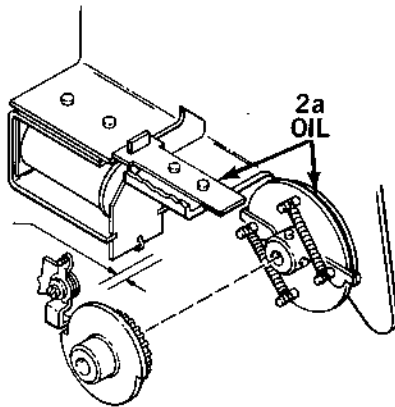

Figure 2. PAPER FEED ASSEMBLY
- a) Apply a drop of lightweight oil on the paper feed clutch gear and sliding shaft of the solenoid armature. (Oil is intended for clutch bearing lubrication). (See Figure 2)